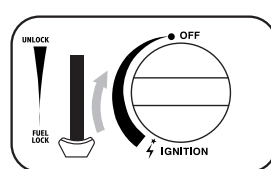

fig. 5
6. Adjust the control knob to the required position. (fig.5) Never set the cartridge lever (6) to the "UNLOCK" position during use!